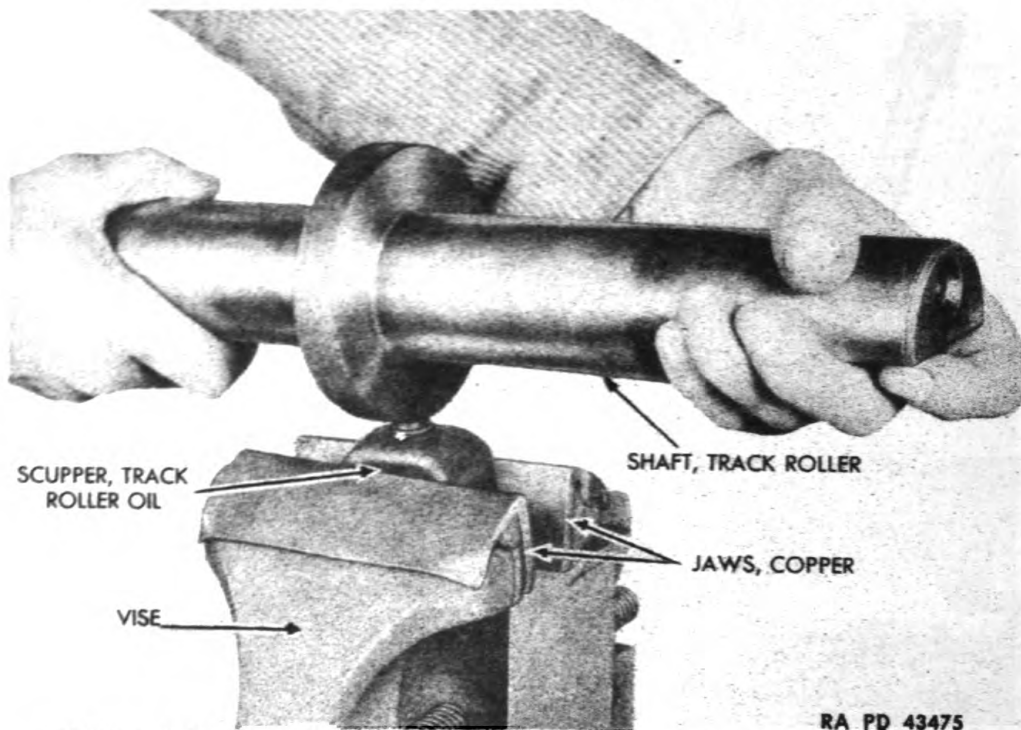

Figure 145 — Track Roller Oil Scupper from Track Roller Removal
(5) REMOVE TRACK ROLLER OIL SCUPPER TRACK ROLLER SHAFT (fig. 145).